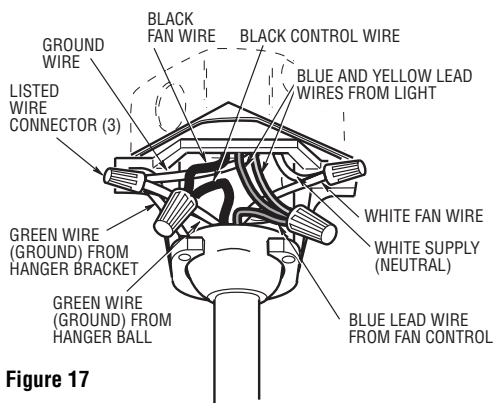

Figure 17
- 2. Securely connect the fan motor white wire to the supply white (neutral) wire using wire connector supplied (Figure 17). Securely connect the fan motor black wire to the control black wire using wire connector supplied (Figure 17). Securely connect light lead blue and light lead yellow wires to blue of fan control. After connections have been made, turn leads upward and carefully push leads into the outlet box, with the white and green leads on one side of the outlet box and the black and blue leads on the other side of the outlet box.